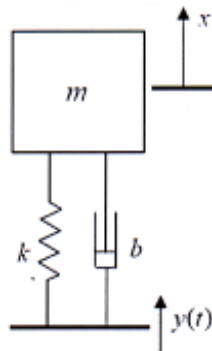

Figure 2
- Q7)** a) For the system in Figure 2, assume m =mass=lkg, k =spring stiffness=2 N/m and b =damping=0.5 Ns/m. Also, x is the system output and y is the system input, which is motion of the base on which the system rests. [10]